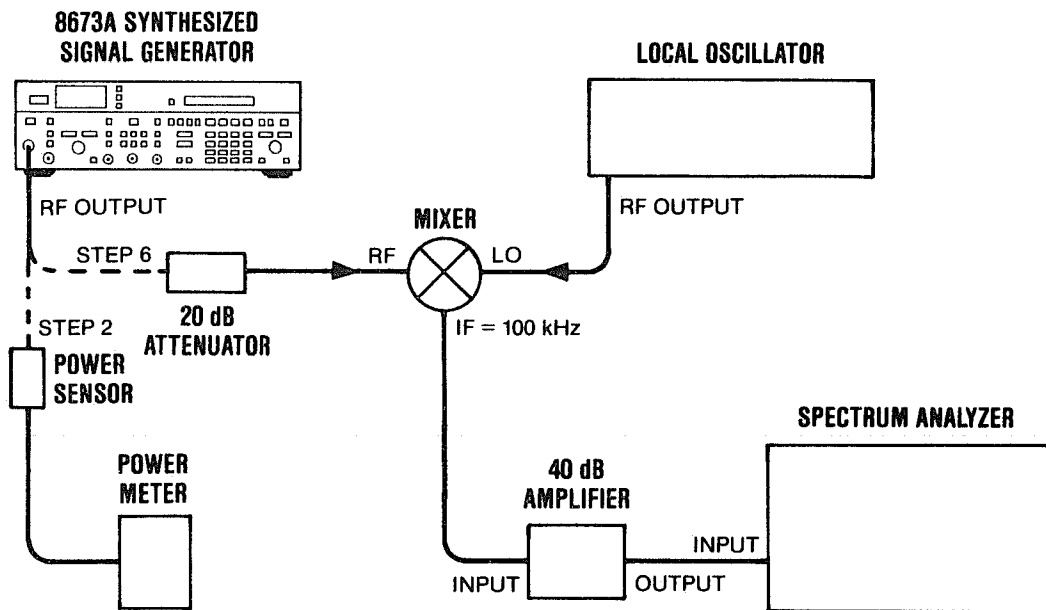

Figure 4-3. Low Level Accuracy Test Setup
2. Connect the equipment as shown in Figure 4-3.
6. Disconnect the power meter and connect the Signal Generator to the mixer as shown in Figure 4-3.